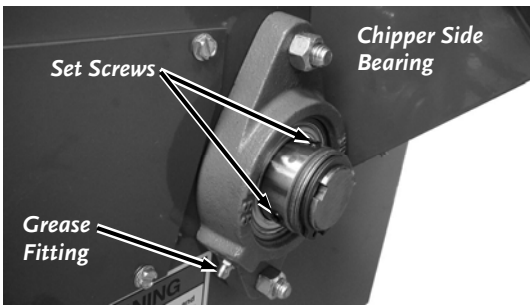

Figure 15
1. Wipe all dirt, etc., from the Grease Fitting(s) with a clean cloth (**Figure 15**).
3. After greasing, check the Side Bearing Collar Set Screws (**Figure 15**) for tightness with a 5/32" Allen Wrench. There are two Set Screws per Bearing. If they are loose, reset them with Loctite® 243, obtainable at most hardware stores.